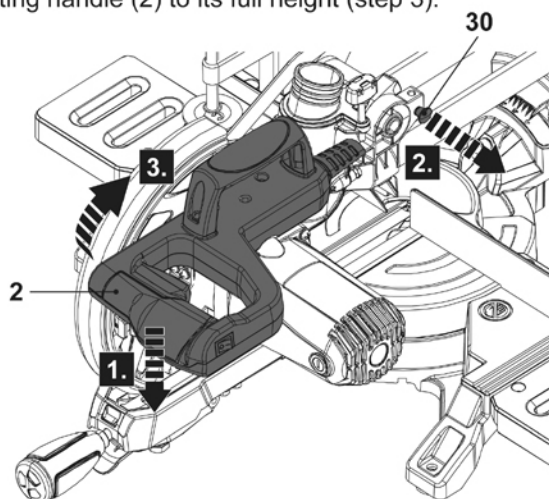

Fig. 1
- > Push the operating handle (2) downwards (Fig. 1, step 1) and pull the locking bolt (30) outwards (step 2) all the way to the stop.
- > Lift the operating handle (2) to its full height (step 3).